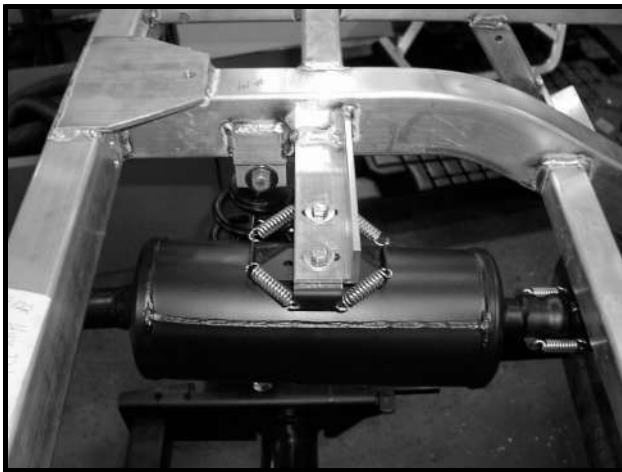

Figure 13a-2 Muffler Bracket and Inlet Pipe
5. Remove the two springs that secure the muffler inlet to the intermediate pipe (**Figure 13a-2, Page 13a-5**). **See following NOTE.**